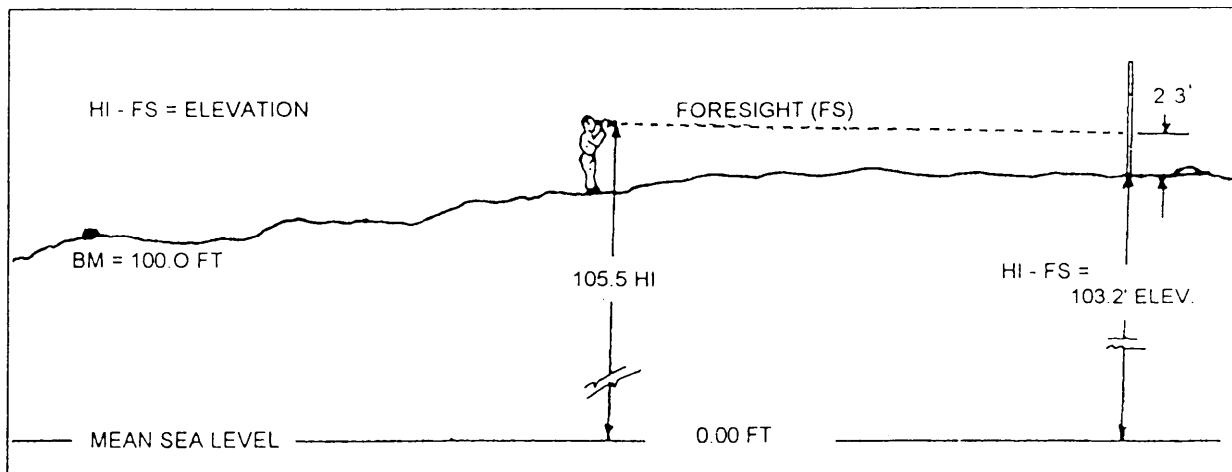

Figure 15-50.—Foresight reading to determine elevation.
For example, as shown in figure 15-50, the height (HI) of the instrument is 105.5 feet. The foresight (FS) reading is 2.3 feet. The instrument height minus the foresight reading gives that point an elevation of 103.2 feet.